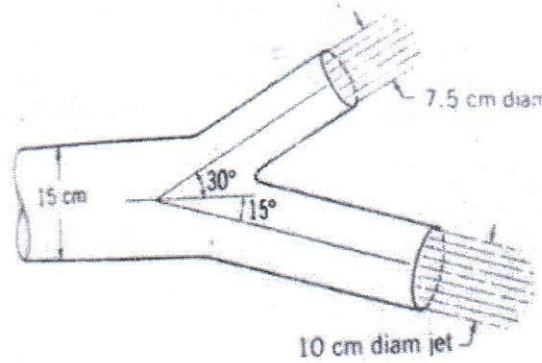

Figure 6
- 4 (a) Determine the magnitude and direction of the force on the double nozzle of the Figure 6. Both nozzle jets have a velocity of 12 m/s. The axes of the pipe and both nozzles all lie in a horizontal plane. Assume unit weight of water to be 9810 N/m^3 . Neglect friction. (12)